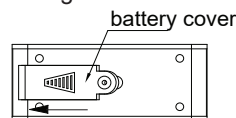

Fig.2
- Slide the battery cover 2mm(Fig.2), remove the battery cover